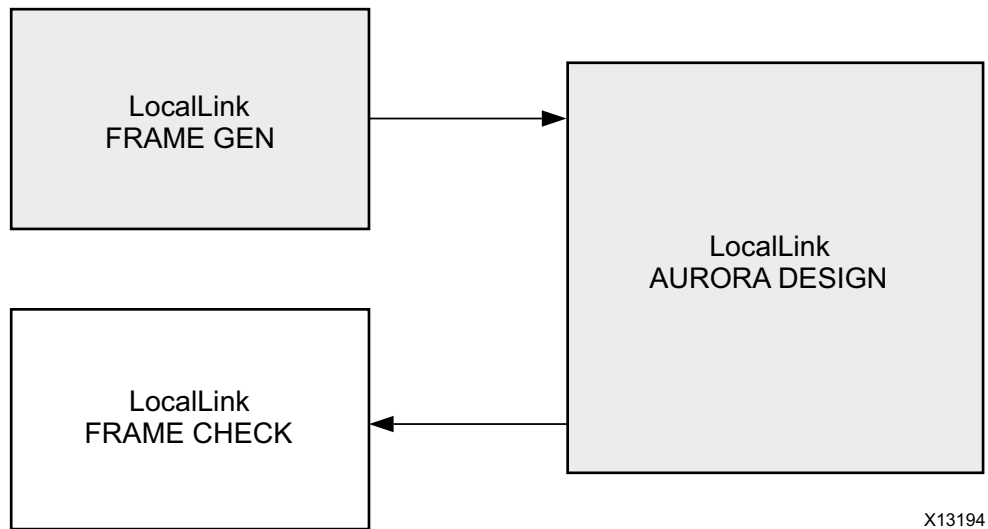
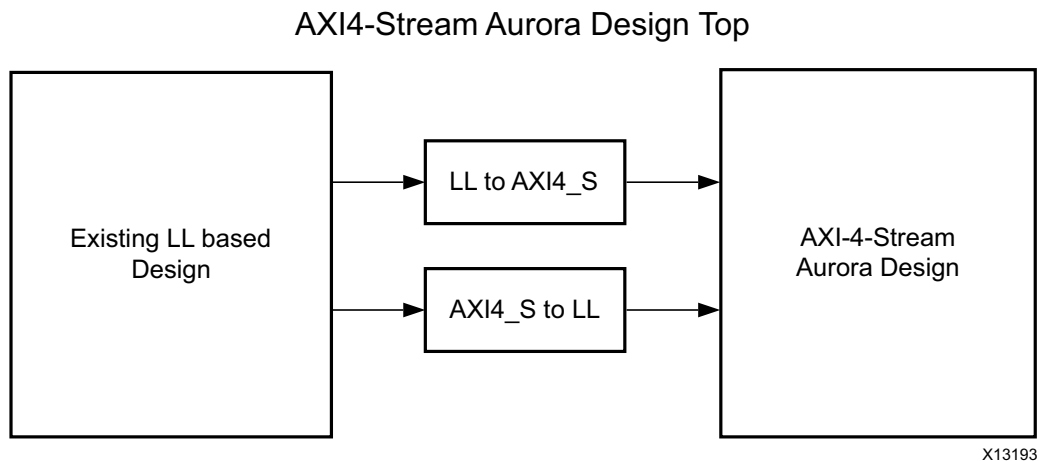

Figure B-1: Legacy Aurora Example Design
Figure B-2: AXI4-Stream Aurora Example Design
Figure B-1 shows an example Aurora design using the legacy LocalLink interface. Figure B-2 shows an example Aurora design using the AXI4-Stream interface.
2. See Figure B-2, page 111 for the emulation of an LL Aurora core from an AXI4-Stream Aurora core.
5. Connect the shim and AXI4-Stream Aurora design as shown in Figure B-2, page 111.